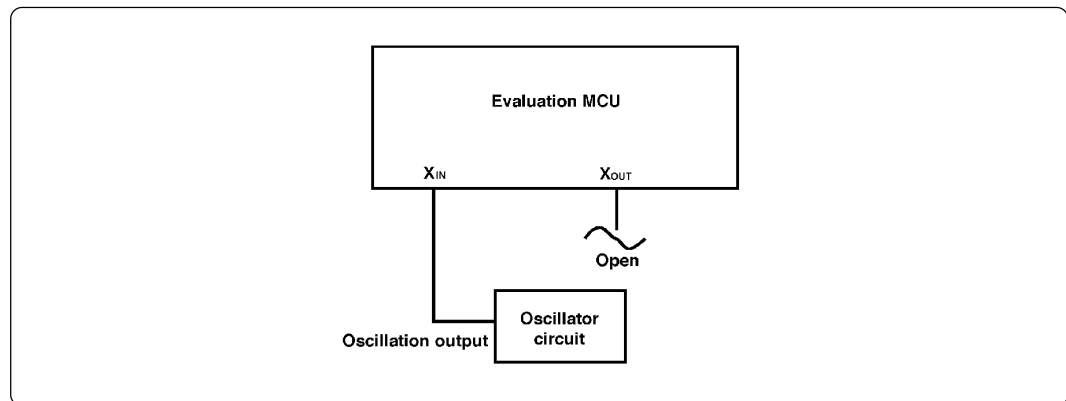

Figure 3.5 External oscillator circuit
To operate this product with an oscillator circuit of the target system, input the oscillator output at 50% duty (within the operating range of the evaluation MCU) into pin X_{IN} as shown in Figure 3.5. Pin X_{OUT} should be open. Choose "External" in the emulator debugger to use this clock.
- To operate this product with an external clock, construct the oscillator circuit as shown in Figure 3.5 in the target system and input the oscillator output at 50% duty (within the operating range of the evaluation MCU) into pin X_{IN} . And pin X_{OUT} should be open.